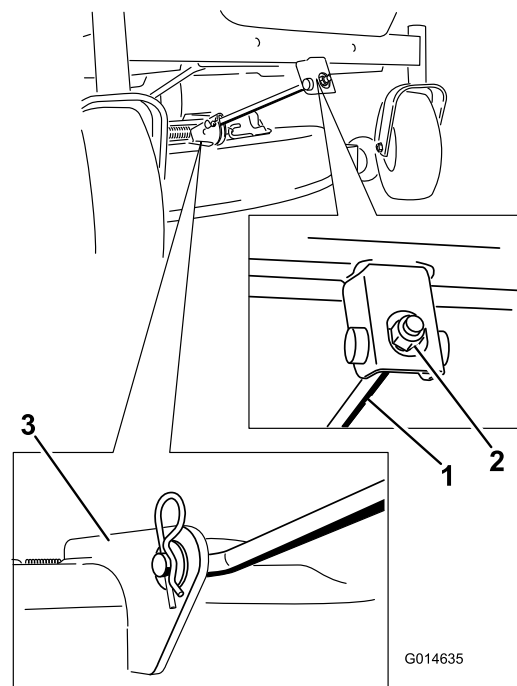

Figure 63
5. Remove the hairpin cotter from the front support rod, and remove the rod from the deck bracket (Figure 63). Carefully lower the front of the mower deck to the ground.
6. Attach the front support rod to the mower deck with the clevis pin and hairpin cotter (Figure 63).